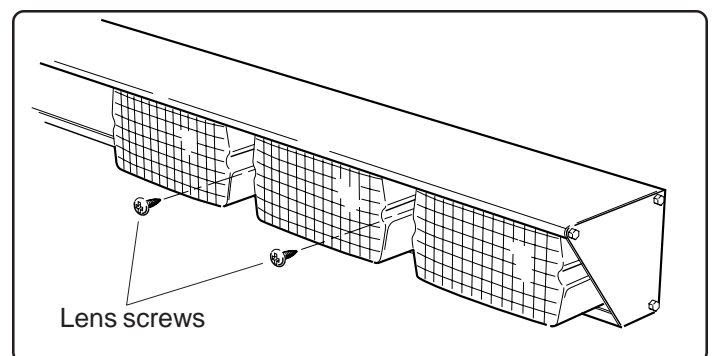

Figure 4. Module Replacement
1. Remove the two lens screws and carefully pull the lens straight out (See figure 4).